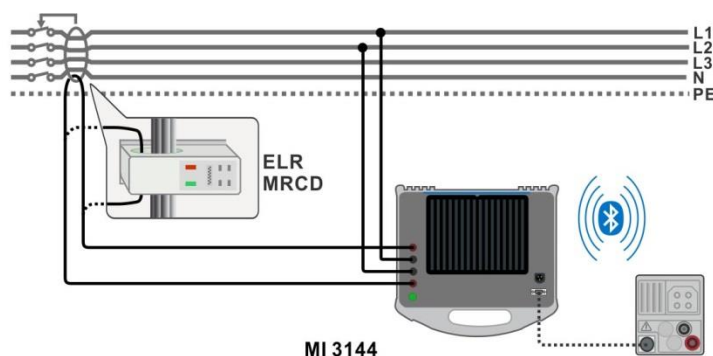

Figure 7.120: ELR Current Injection Test / Combination Time Test connection
- Connect MI 3152(H) instrument with MI 3144 Euro Z 800 V instrument via serial RS232 or pair them using Bluetooth communication. See chapter **4.6.5.1 Configuration of measuring adapters**.
- Check Bluetooth communication active sign if MI 3144 Euro Z 800 V instrument is connected to MI 3152(H) instrument via Bluetooth communication.
- Connect test leads to the object under test. See **Figure 7.120**.
See **Figure 7.120**.
- Connect test leads to the object under test. See **Figure 7.120**. Refer to **MI 3144 Euro Z 800 V Instruction manual** for detailed information.